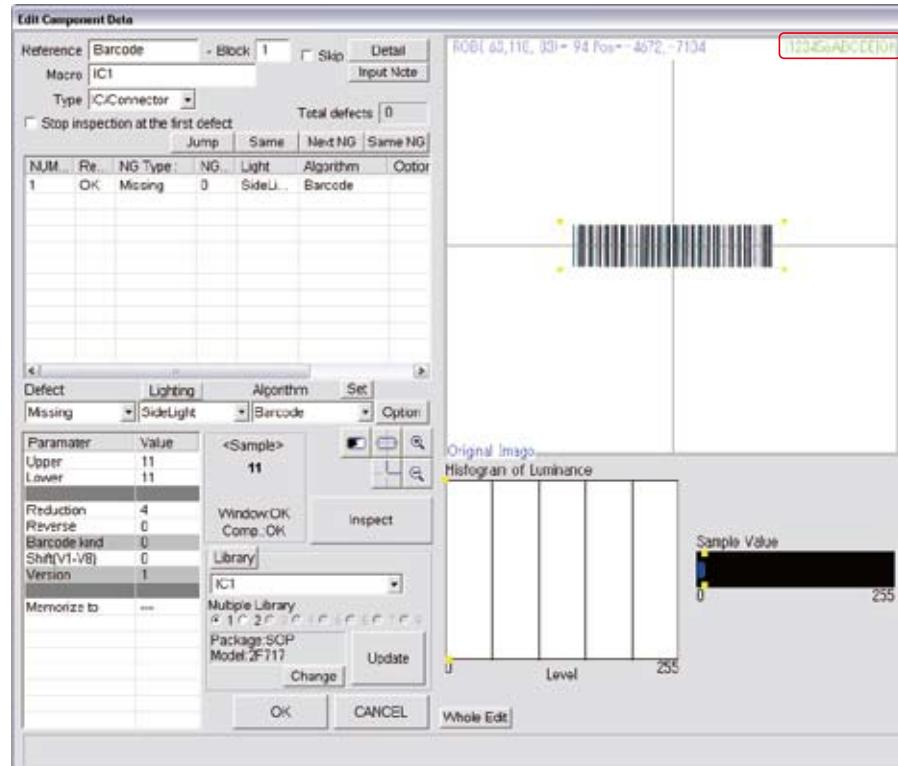

Figure 1-69 Barcode
- Step4: Press **Inspect** and check if the alphanumeric character of the barcode is correctly displayed in the upper right side of the window shown in Figure 1-69.